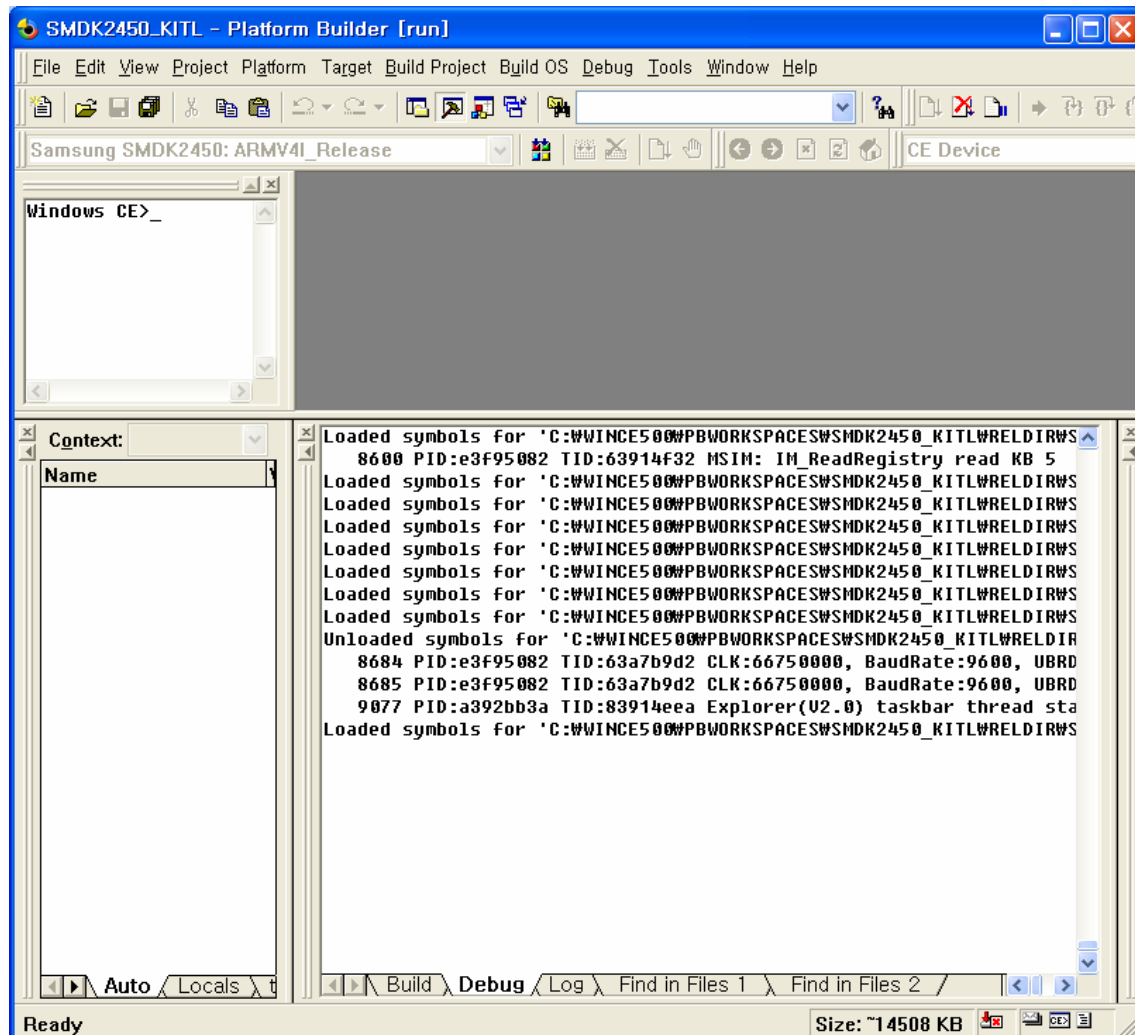

Figure 6-33 Platform Builder Window after USB Serial KITL connected
11. USB Serial KITL gets connected. Windows CE 5.0 boots on the target board and platform builder window appears as shown below in figure 6-33.